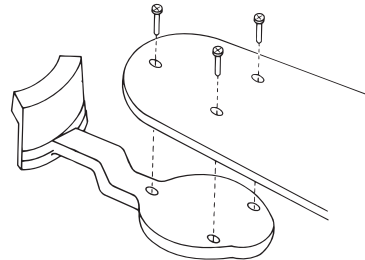

FIGURE 8
**A.** Attach blades to blade brackets using three screws for each blade. See Figure 8.